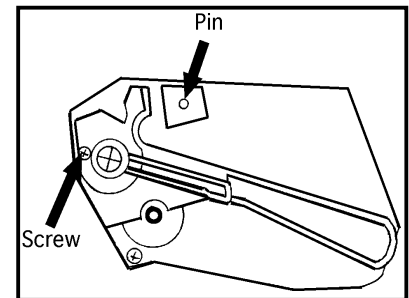
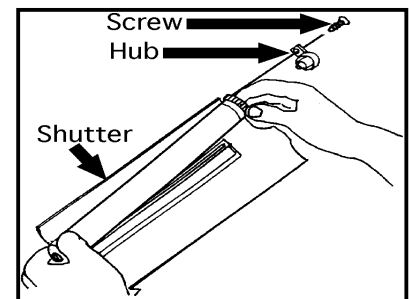

Figure 2
Figure 3
2. Remove the OPC drum hub (1 screw - Fig. 2). Lift the OPC by the large helical gear (Fig. 3). Clean, inspect, and lubricate the drum. Replace if necessary.